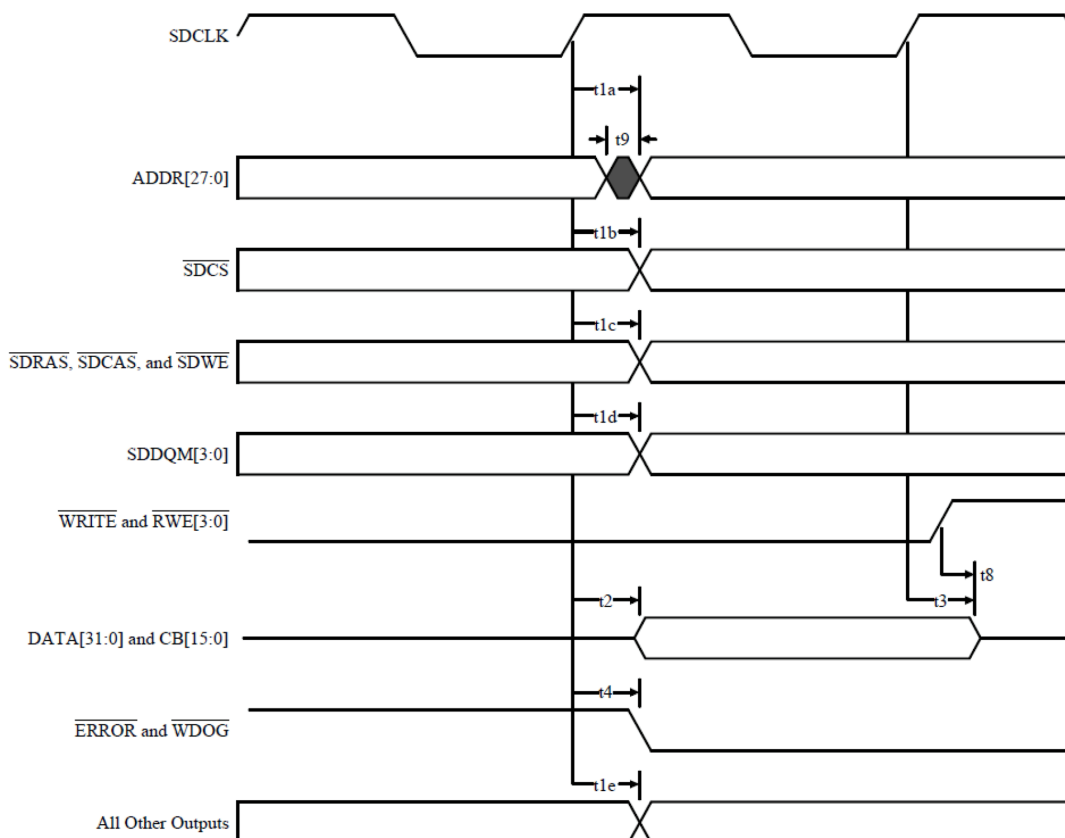

Figure 4:2: Memory Interface, $\overline{\text{ERROR}}$, and $\overline{\text{WDOG}}$ Output Timing Diagram
- 1) All outputs are measured using the load conditions shown in Figure 4:12